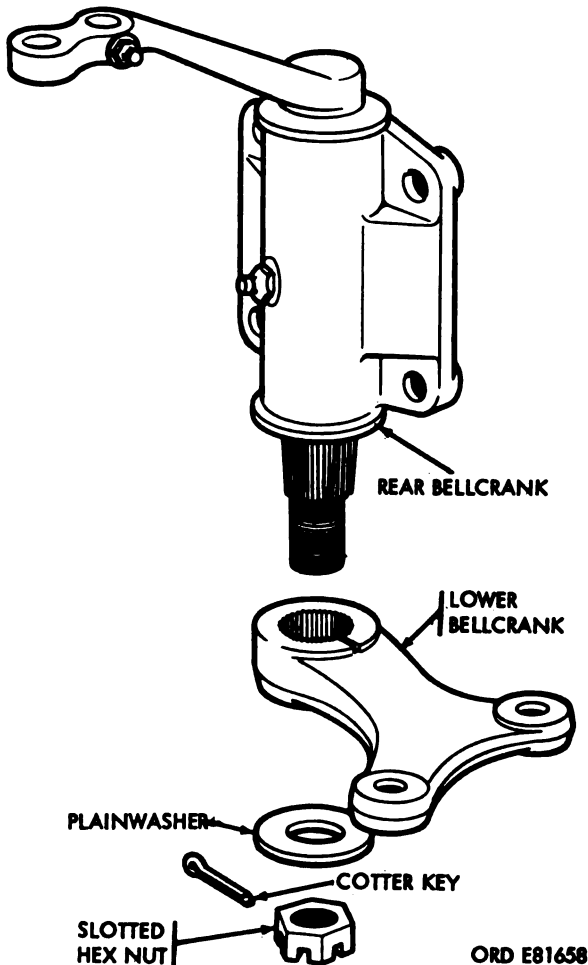

Figure 2-92. Installation of bellcrank lower arm, to bellcrank.
- (3) Install the bellcrank special washer and retaining snapping. Align mark on bellcrank lower arm with mark on end of bellcrank (fig. 2-92) and push lower arm onto bellcrank splines. Secure lower arm with flat washer and slotted nut. Secure slotted nut with cotter pin.
- (2) With thrust washer installed on rear bellcrank upper arm, push arm through bearings in bellcrank bracket front top. Position fork in rear end of steering connecting rod in alignment with hole in upper arm, and install clevis pin and cotter pin.
- (3) Install the bellcrank retaining ring and special washer. Align mark on bellcrank lower arm with mark (fig. 2-92) on end of bellcrank, and push lower arm onto the bellcrank splines. Secure lower arm with flat washer and slotted nut. Secure slotted nut with cotter pin.
- (4) On the M274A3 (fig. 2-92) install number 8 woodruff key in lower end of bellcrank upper arm; push bellcrank lower arm over key and into upper arm, and secure with 3/8-24NF x 2 hex-head bolt and self locking hex nut.